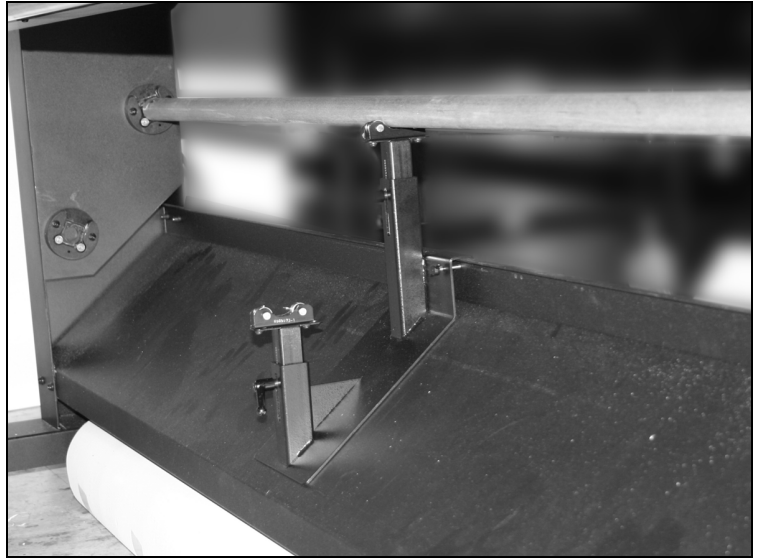

Fig. 3-5. Spool support
3. Optionally, if using large rolls of narrower media, install the spool support and/or sleeve (see Fig. 3-5 and Fig. 3-6).